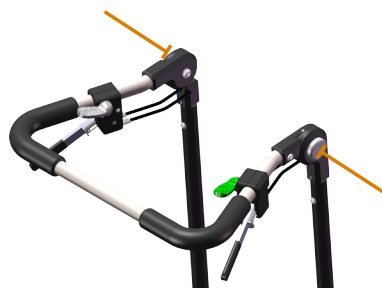

Figure 11. Push bar release buttons
- Push the buttons (Figure 11) on both left and right side and move the push bar to the desired position.